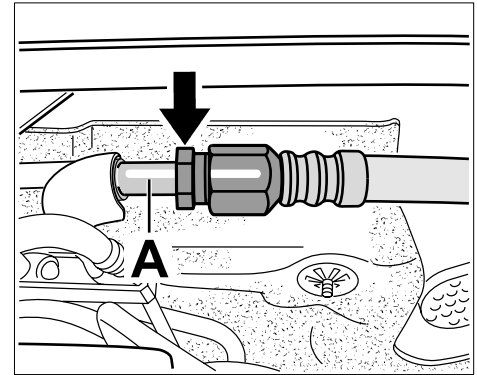

Figure 7
- 5.1 Place several cloths underneath the connection point at the plenum panel ⇒ *Figure 7 -arrow-* to absorb the fuel that emerges when you open the fuel line.
The marking at the connection point ⇒ *Figure 7 -A-* is required for positioning the fuel line correctly at the connection point and must not be removed.
- 5.2 Counter at the hexagon on the fuel line and relieve the fuel pressure at the connection point at the plenum panel ⇒ *Figure 7 -arrow-* by **slowly opening** the threaded joint on the fuel line. Absorb emerging fuel.